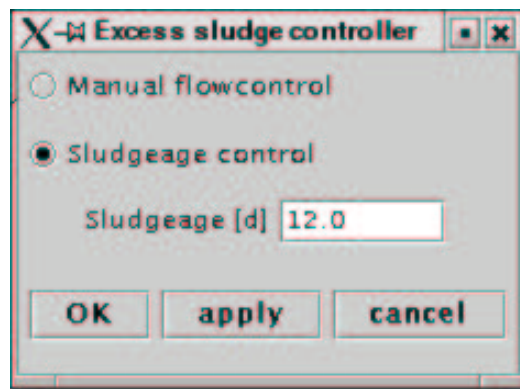

Figure 7: The Excess sludge controller dialog
29. The excess sludge controller keeps a fixed sludge age by controlling the excess sludge flow rate. It uses a mass balance equation to calculate the flow rate. By selecting *Excess sludge controller* in the *Controllers* menu the dialog shown in Figure 7 is displayed. In this dialog settings for the excess sludge controller is displayed. The controller can be set to manual mode, which allows for setting the excess sludge flow rate by clicking on the corresponding pump symbol. If the flow is set to automatic control, the desired sludge age should be given.